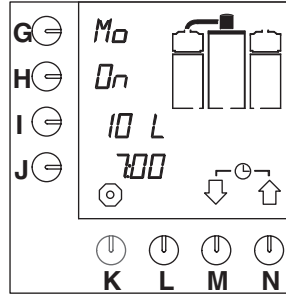

Fig. 13 Waiting mode timer
- An enter symbol appears ↵ on the display. The clock in the display starts flashing and the system will make coffee at the set time. The waiting mode appears on the display (fig.13).
- The clock in the display starts flashing and the system will make coffee at the set time. The waiting mode appears on the display (fig.13).